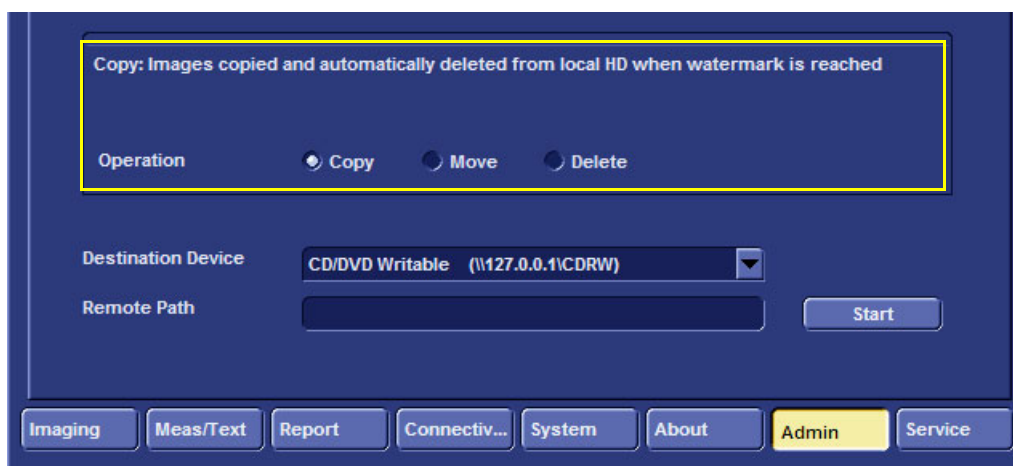

Figure 8-139 Copy Images for Export
7.) Under Operation, select **Copy** - see Figure 8-139.